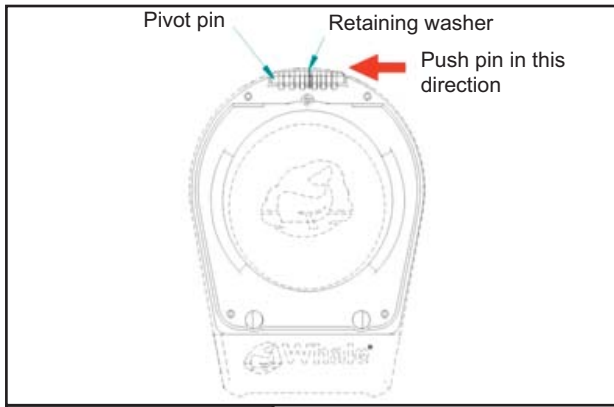

Fig.9
1. Press out hinge pin in illustrated direction using appropriate force (then slide off handle). Care should be taken to keep the retaining washer in a safe place (see fig. 9).
8. Re-attach the handle by reconnecting the hinge, pressing the pin through the retaining washer (See fig. 9).